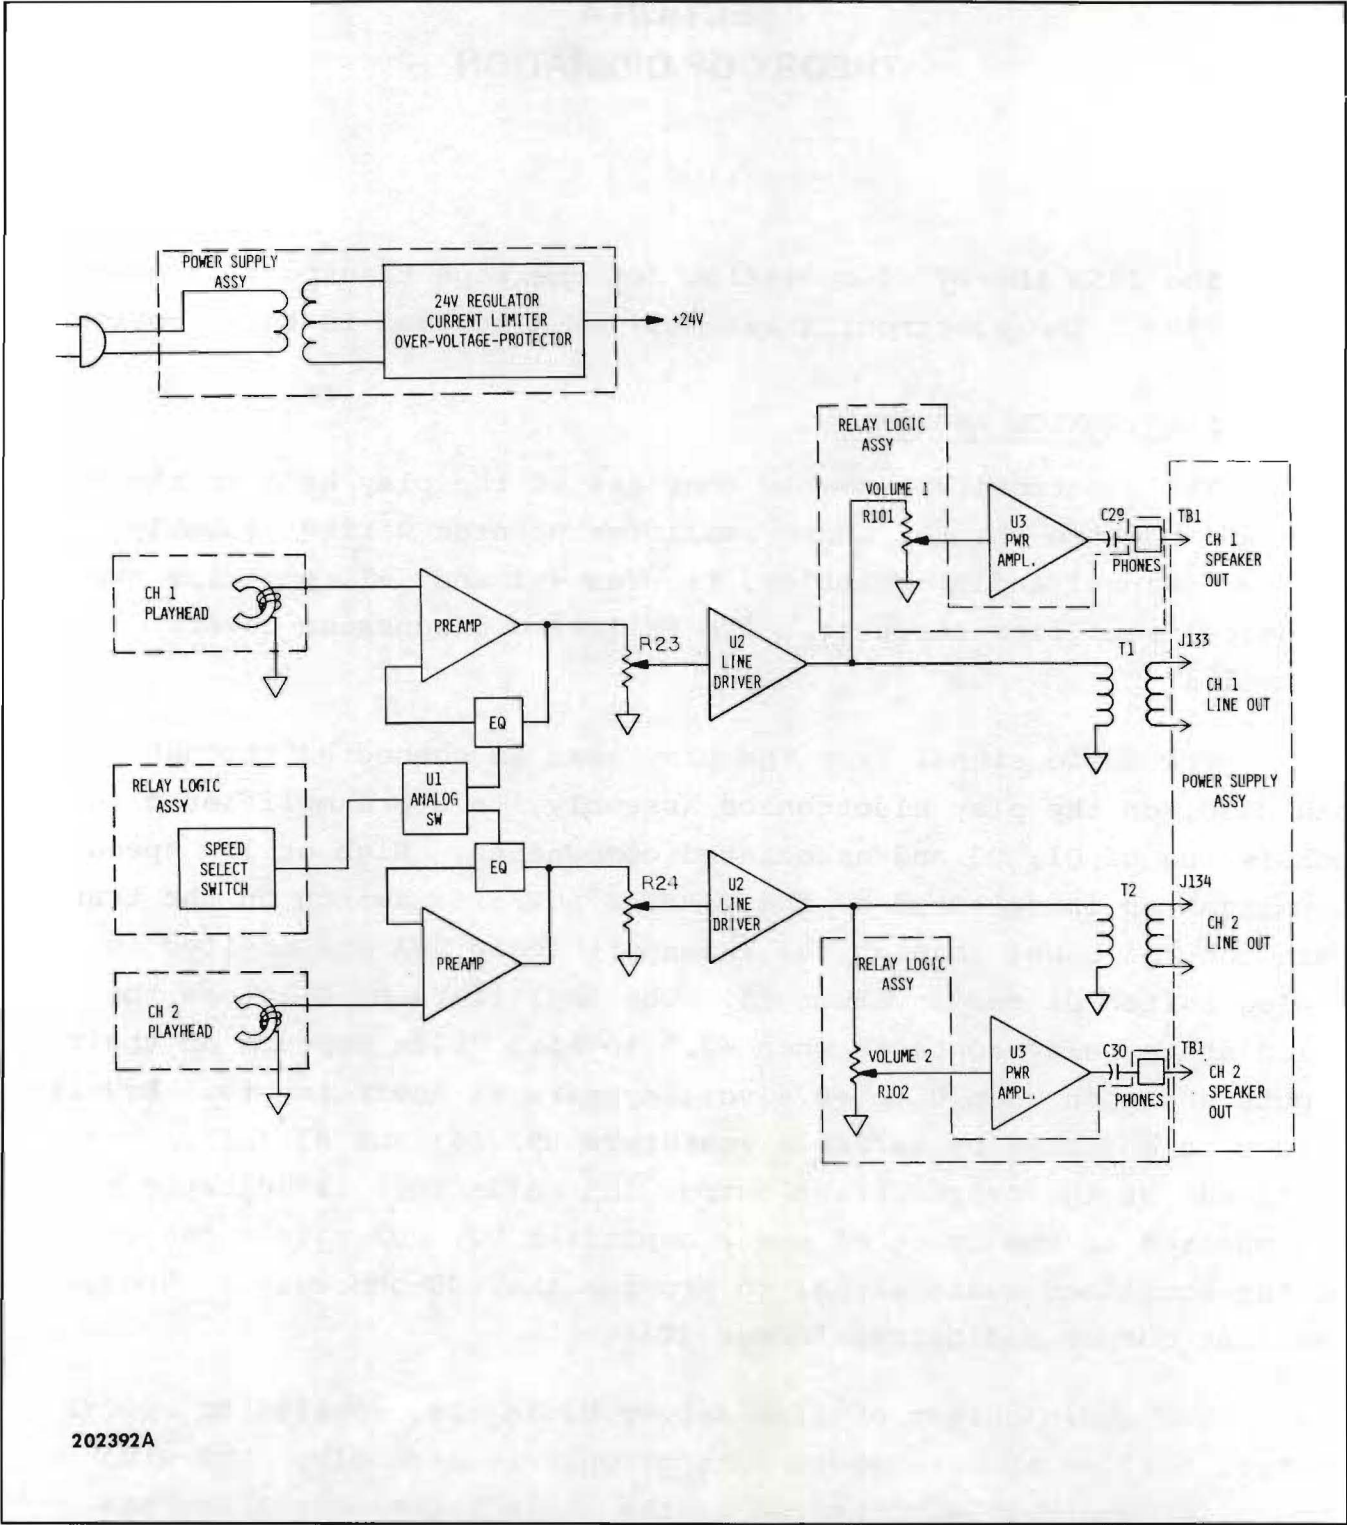

Figure 4-1. 285B Reproduce System Block Diagram
4.4 The electronics assembly consists of the play head on the tape deck and the two-channel audio amplifier printed wiring assembly. The two-channel audio amplifier, Figures 4-1 and 7-1, contains two identical amplifier circuits. The following discussion covers channel 1.